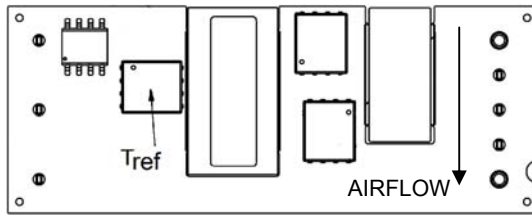

Figure 13.  $T_{ref}$  Temperature Measurement Location for Open Frame Module.
To provide protection under certain fault conditions, the unit is equipped with a thermal shutdown circuit. The unit will shutdown if the thermal reference point  $T_{ref}$  (Figure 13), exceeds 130°C (typical), but the thermal shutdown is not intended as a guarantee that the unit will survive temperatures beyond its rating. The module can be restarted by cycling the dc input power for at least one second or by toggling the remote on/off signal for at least one second. If the auto-restart option (4) is ordered, the module will automatically restart upon cool-down to a safe temperature.
The thermal reference point,  $T_{ref}$  used in the specifications for open frame modules is shown in Figure 13. For reliable operation this temperature should not exceed 117°C.